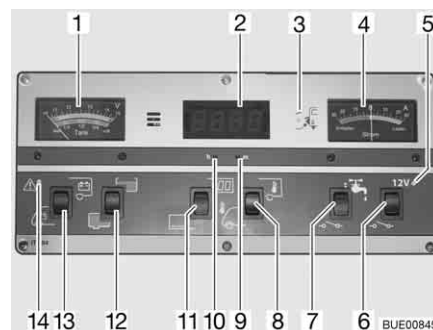

Fig. 136 Panel IT 994
With the V/tank gauge (Fig. 136,1), note the top scale. The gauge automatically lights up as soon as a switch is pressed.
- Press the lower part of the rocker switch (Fig. 136,13): The battery voltage of the starter battery is displayed.
- Press the upper part of the rocker switch (Fig. 136,13): The battery voltage of the living area battery is displayed.
The V/tank gauge is for the indication of the quantity of water or waste water. With the V/tank gauge (Fig. 136,1), use the bottom scale. The gauge automatically lights up as soon as a switch is pressed.
- Press the upper part of the rocker switch (Fig. 136,12): The volume of water is displayed.
- Press the lower part of the rocker switch (Fig. 136,12): The volume of waste water is displayed.
The red ALARM warning light (Fig. 136,14) flashes as soon as the voltage of the living area battery falls below 11 V (measured under operation) and there is a risk of a total discharge.
- Press the upper part of the rocker switch (Fig. 136,11): Digital clock display is switched on. Temperature display is ready to operate.
- Press the lower part of the rocker switch (Fig. 136,11): Digital clock display and temperature display are switched off.
- Press a thin device, such as a biro, into the opening for the hour display (Fig. 136,10) until the correct hours are displayed.
- Press a thin device, such as a biro, into the opening for the minute display (Fig. 136,9) until the correct minutes are displayed.
- Press the upper part of the rocker switch (Fig. 136,8): The internal temperature is displayed.
- Press the lower part of the rocker switch (Fig. 136,8): The external temperature is displayed.
The battery current actually flowing is permanently displayed on the current gauge (Fig. 136,4). The gauge automatically lights up as soon as a switch is pressed.
The 12 V main switch (Fig. 136,6) switches the panel and the 12 V power supply of the living area on and off.
Switching on: ■ Press the upper part of the rocker switch (Fig. 136,6): The 12 V living area power supply is switched on. The indicator lamp (Fig. 136,5) lights up green.
Switching off: ■ Press the lower part of the rocker switch (Fig. 136,6): The 12 V living area power supply is switched off. The indicator lamp (Fig. 136,5) goes out.
The 12 V indicator lamp (Fig. 136,5) illuminates whenever the 12 V main switch (Fig. 136,6) is switched on.
The yellow 230 V indicator lamp (Fig. 136,3) illuminates whenever line voltage is available at the transformer/rectifier input.
Switching on: ■ Press the upper part of the rocker switch (Fig. 136,7): The water supply is ON.
Switching off: ■ Press the lower part of the rocker switch (Fig. 136,7): The water supply is OFF.